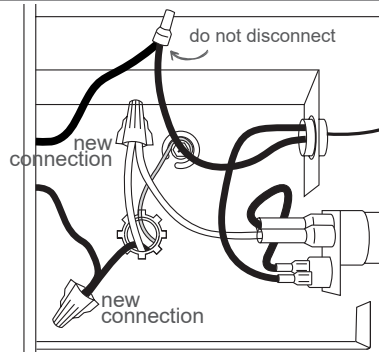
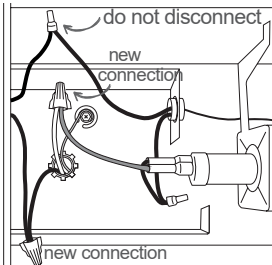
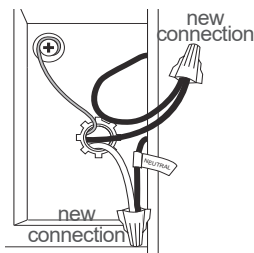

Figure 3
Figure 4
Figure 5
- B. For 120 volts, connect the neutral (white) supply wire to the white heater wire on the left end (Figure 3). On the right end, connect the wire labeled **NEUTRAL** to the white supply wire (Figure 5).
C. For 208 volts, connect the neutral (white) supply wire to the orange heater wire on the left end (Figure 4). On the right end with a neutral supply, connect the wire labeled NEUTRAL to the white supply wire (Figure 5).